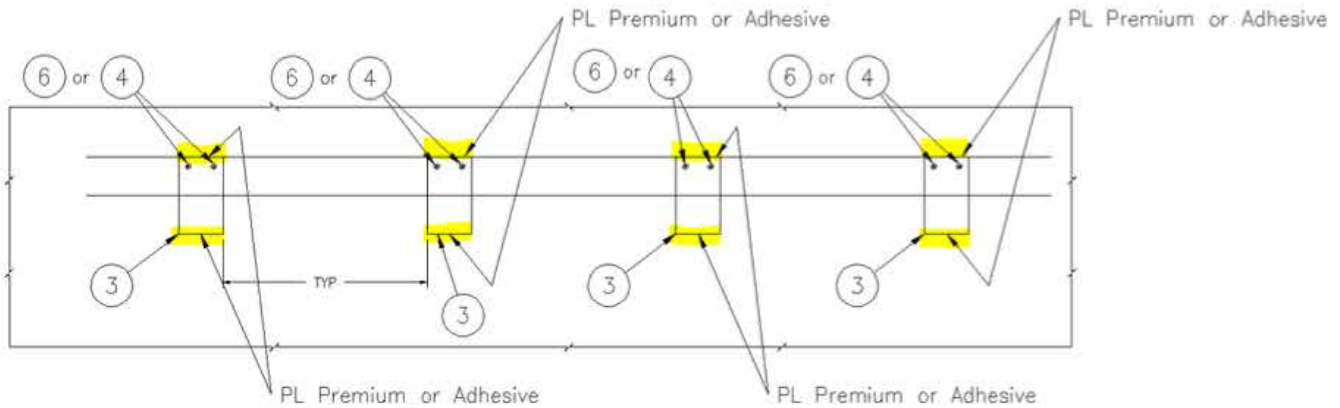

Fig. 17
Step 7B - Apply PL Premium or adhesive to the top and bottom of the wood mounting blocks or 2x4 or 2x6 where the Beam Mantel will be attached. (Fig. 17)